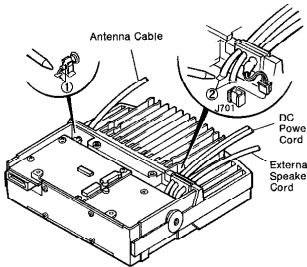

Figure 3-5
(2) Next, remove the solder from parts ① and ② as shown in Figure 3-5 below, and then remove the antenna cable and power cable.